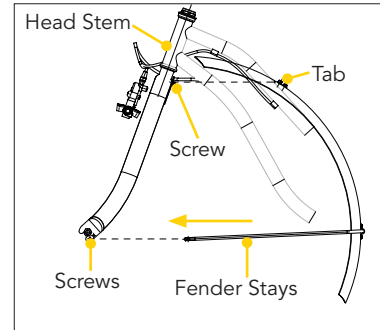

Fig. 1
- Step 1.** Remove the nut, washers and bolt at the top of the front fork. Then remove the screws at the lower fender stays. (Fig. 1)